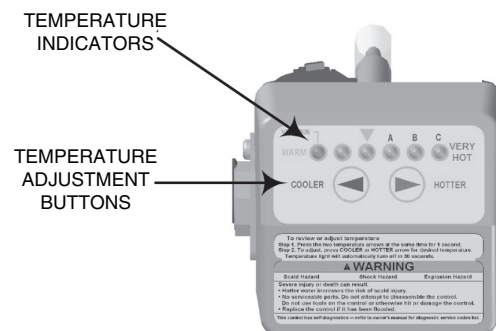

Figure 2. Temperature Indicators and Adjustment
1. “Wake up” the temperature indicators by pressing the COOLER and HOTTER temperature adjustment buttons at the same time and releasing after one second (see Figure 2). One or two of the temperature indicators will light up. These indicators will only remain on for 30 seconds if no further buttons are pressed. After 30 seconds the control will go back to “Sleep” mode, and both buttons will again have to be pressed to see the water temperature setting.
- “Wake up” the temperature indicators by holding down both the COOLER and HOTTER temperature adjustment buttons at the same time for one second (see **Figure 2**). One or two of the temperature indicators will light up. Make a note as to which indicators are illuminated so that you can reset the control to the same setting when you return from vacation.